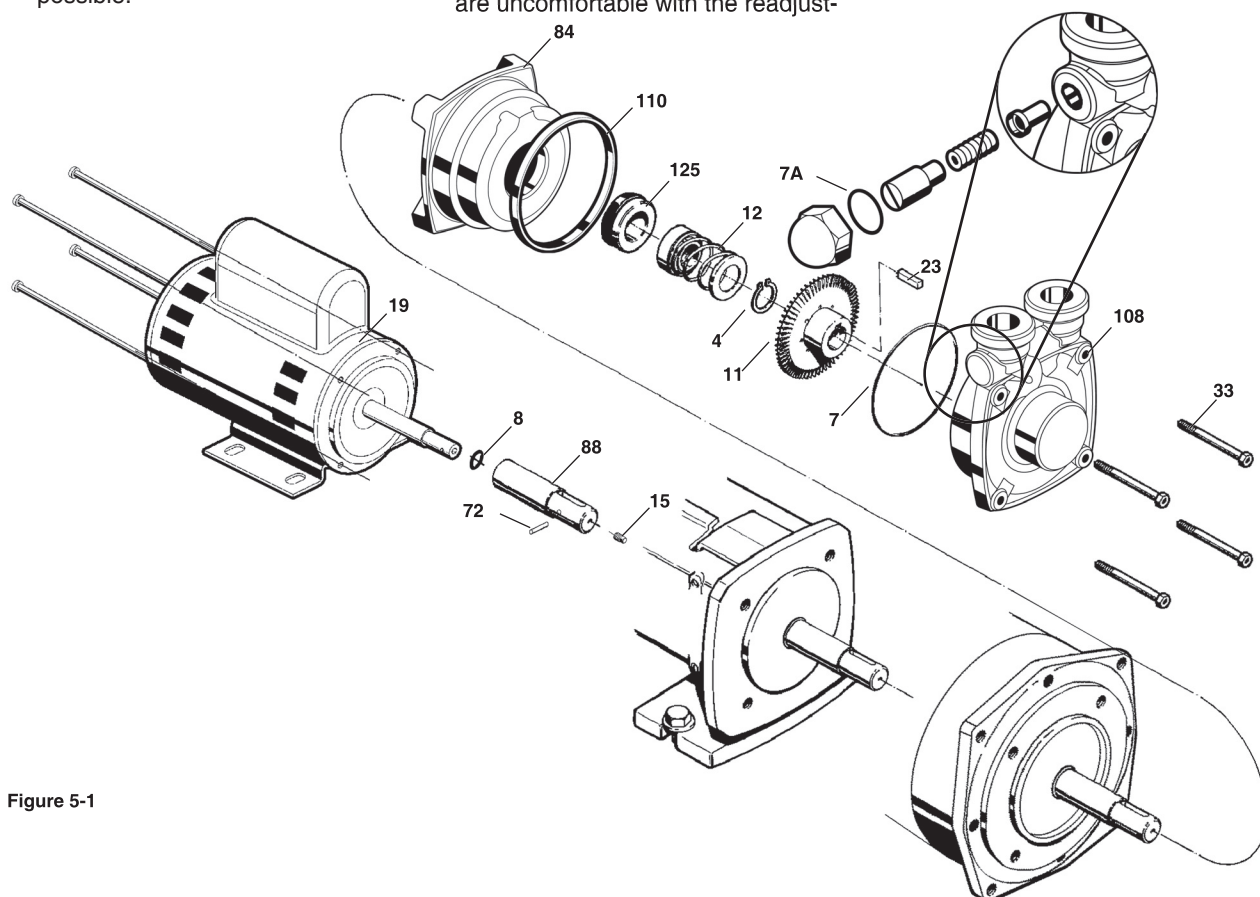

Figure 5-1
Refer to Figure 5-1 for reference to the numbered parts in the procedures below. Please note that the P31 is an adjustable performance pump. It has been preset at the factory for your particular performance needs. If you are disassembling for inspection or seal replacement only, you may wish to mark or otherwise lock the adjusting nut (#110) into place (before disassembly) especially if you are uncomfortable with the readjust-
6. Install the impeller (#11). The impeller is a slip fit and should slide on firmly but easily until it stops against the impeller wearing surface. Force should not be required or used to install the impeller in the correct position. The impeller hub should be facing out away from the motor bracket. Refer to Figure 5-1.
9. Apply a thin coating of lubricant to the o-ring groove in the casing (#108). Place the casing (#108) over the motor bracket with the inlet and outlet ports in the 12 o'clock position. Install the four (4) M6-1 bolts (#33). **DO NOT torque the bolts at this time as impeller damage will result.** Lightly snug the bolts systematically, alternating diagonally across the casing until the o-ring is seated and the casing is snug against the impeller. The pump should not turn by hand at this time because the casing is physically squeezing the impeller against the motor bracket. This condition is termed the "Zero Clearance Position" and will be important to setting the final performance adjustment in the next step.
- c. Back off the four (4) M6-1 Bolts (#33) a few turns.